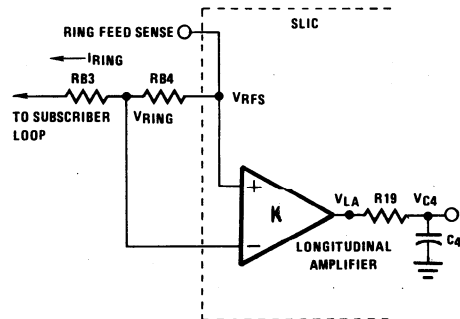
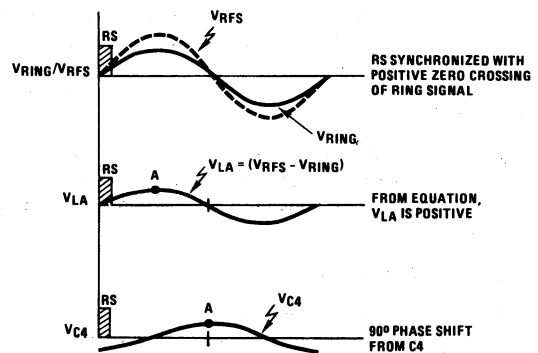

FIGURE 4.
FIGURE 5.
For Case II refer to Figures 4 and 5. Here ring sync must be synchronized with the positive zero crossing of V_{RING} (AC) as it appears on the line so as to coincide with the negative peak of V_{C4} (AC), as in the previous case. One can see from Figure 5 that ring sync on the negative zero crossing would coincide with the positive peak of V_{C4} , inhibiting ring trip for loops greater than approximately 800 ohms.